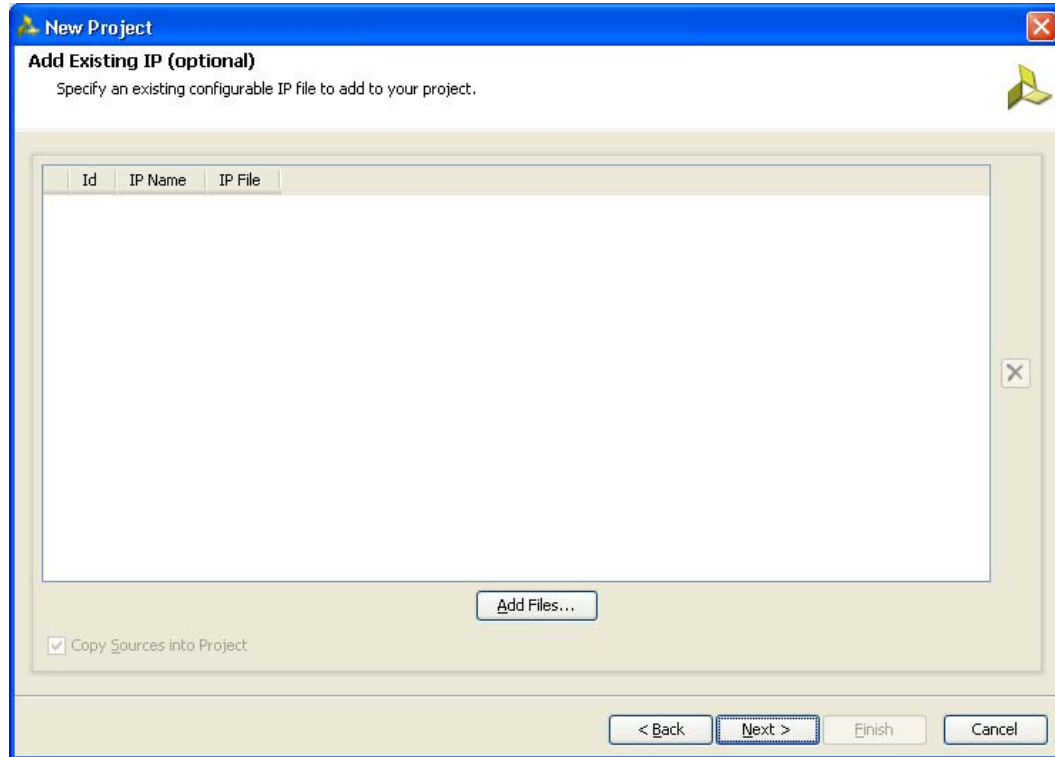

Figure 2-6: Add Existing IP (Optional)
6. Click **Next** to open the **Add Existing IP (Optional)** page (Figure 2-6). If the IP is already created, the XCI file generated by the IP can be added to the project and the previous created IP files are automatically added to the project. If the IP was not created earlier, proceed to the next page.